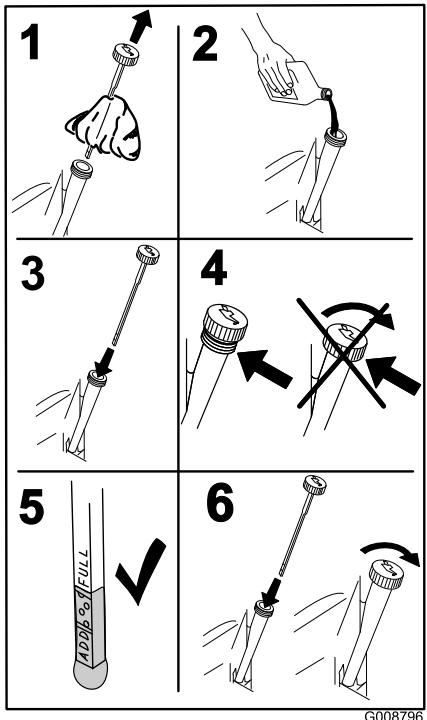

Figure 34
7. Slowly pour approximately 80% of the specified oil into the filler tube and slowly add the additional oil to bring it to the **Full** mark (Figure 34).